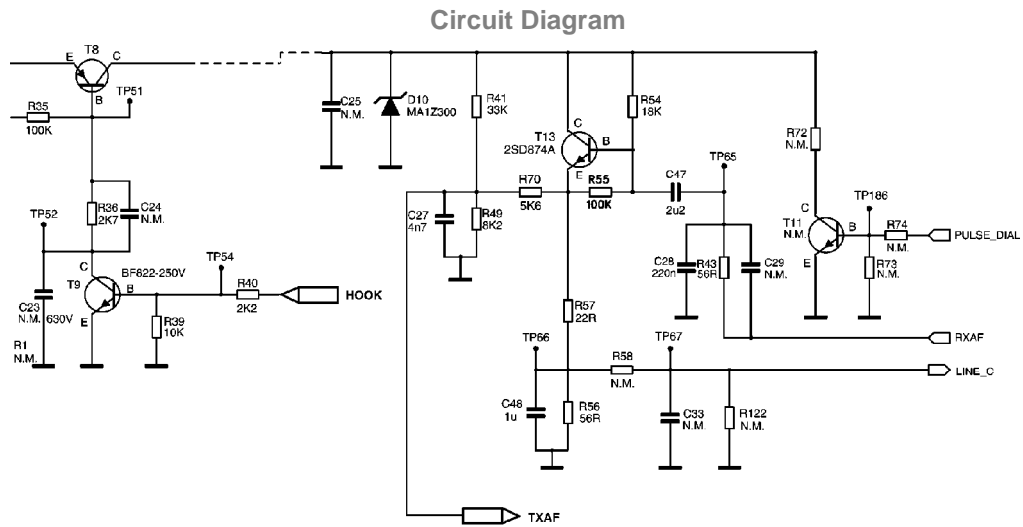

Fig. 20
5.2.6. HOOKSWITCH AND PULSE DIALING (SEE Fig. 20)
5.2.7. AUDIO CIRCUITS (SEE Fig. 20)